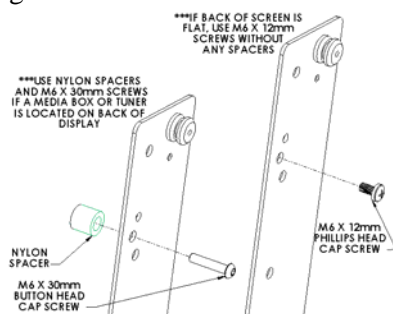
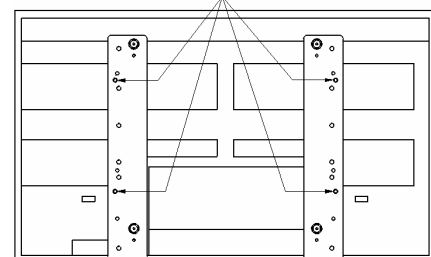

Figure 4
Figure 5
2. Align hole pattern on brackets with pattern on back of Plasma Display. Attach using the M6 x 12mm cap screws (see Figure 5). If a media box or tuner is located on back of screen, place nylon spacers over mounting holes and attach with M6 x 30mm button head cap screws (see Figure 4).